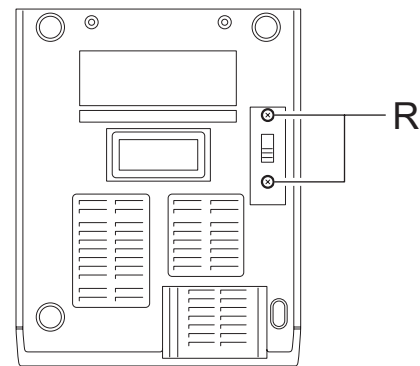

Fig.18
3.1.9 Removing the Transformer (See Fig.18 , 19)